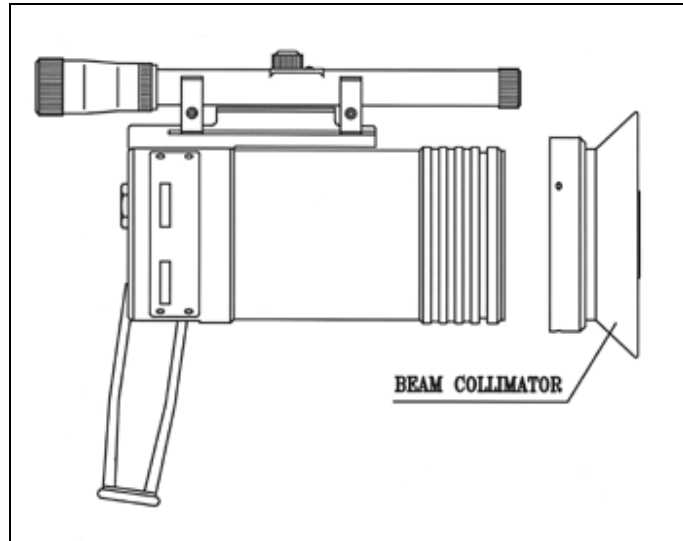

Figure 18: Fire Simulator
The EExde approved version provides an additional EExe terminal box attached below the EExd detector and therefore allows easier access for wiring in difficult environments and hazardous areas (see fig. 18). The unit is prewired to the terminals in the additional EExe terminal section ready for field wiring connections
- 3 Place the detector, with its conduit inlets / electrical entries pointing down, on the holding plate of the swivel mount (Fig. 8 item 7). Secure the detector by four (4) M6 screws with M6 spring washers from the Swivel Mount Kit using the holes (Fig. 9 item 5). You can use the thread on the modified cover (Fig. 18 item 1) marked either triangle symbol (Δ) or square symbol (\square). Use No. 5 Hex Key for M6 screws.
2. WIRING (REFER TO FIG. 18.)
- 2 Release the four (4) slotted-head screws (item 3) that secure the chamber cover (Item 2). The chamber is now revealed.